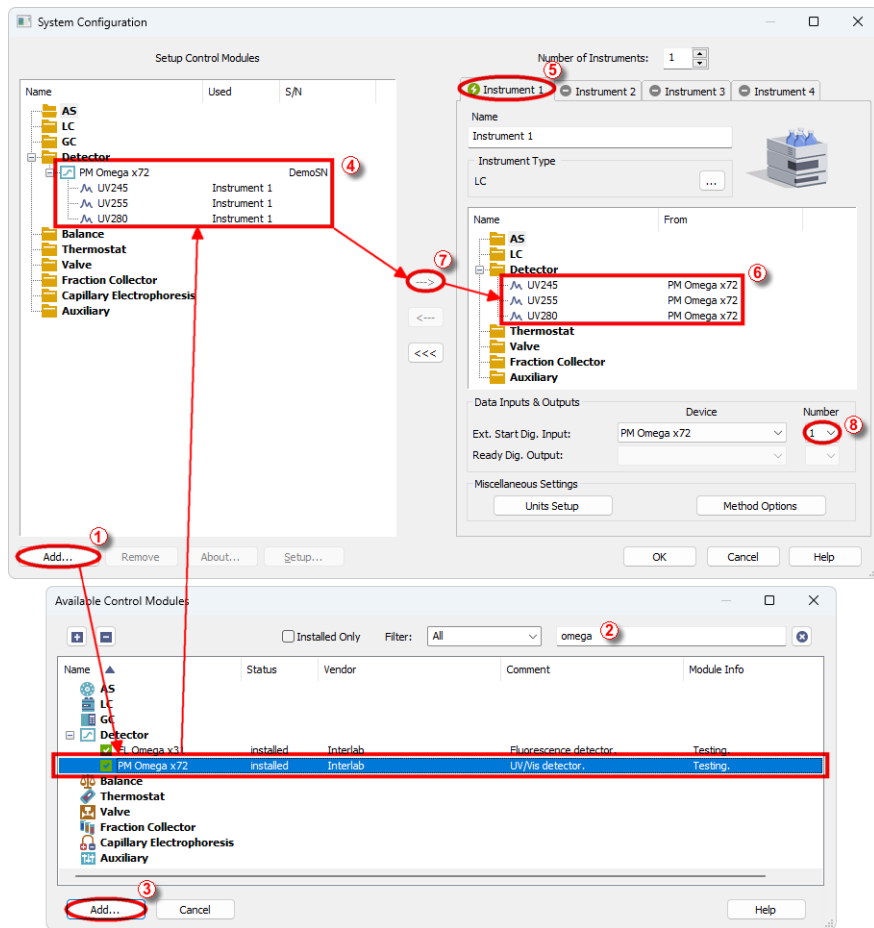

Fig. 2: System Configuration - UV-Vis Detector
- Press the *Add* button ① (see Fig. 2 on pg. 4.) to invoke the *Available*
- You can specify the searching filter ② to simplify the finding of the driver.
- Select the **PM Omega x72** and press the *Add* ③ button.